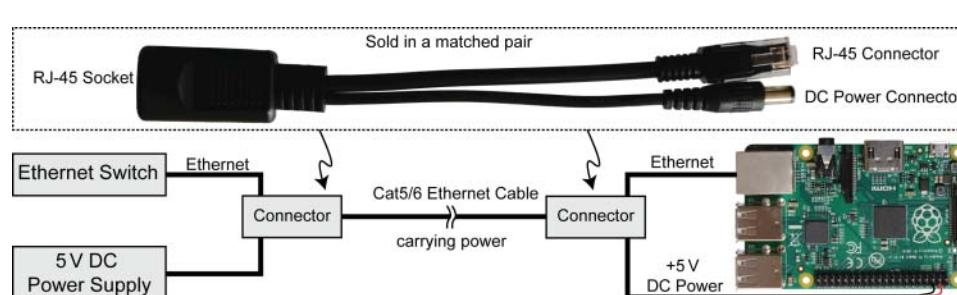

Figure 12-23: AdaFruit pseudo-PoE cable
- 1. Use a pseudo-PoE cabling structure:** Adafruit sells a *Passive PoE Injector Cable Set* (~\$6), illustrated in Figure 12-23, for which you can use a regular 5 V mains supply to inject power into the unused twisted pair wires, and then draw that power at the other end of the cable. You can use the crimp tool that is described in Chapter 4 to terminate the DC power connector with a DuPont connector so that it can be attached to the RPi GPIO header (e.g., pins 4 and 6). **Do not connect such cables to a true PoE switch!**
One problem with the arrangement in Figure 12-23 is that the 5 V supply voltage will drop as the cable length increases due to the impact of cable resistance. Recently, low-cost network switches have become available that offer PoE functionality. *Power extraction modules* (PEMs) can be purchased to step down the 48 V DC voltage that is supplied by these switches to lower, fixed DC levels (e.g., 3.3 V, 5 V, 12 V). The low-cost (\$10–\$15) PEM that is used in this section is the PEM1305 (tiny.cc/erpi1205), which can be used to supply 5 V to the RPi. PoE